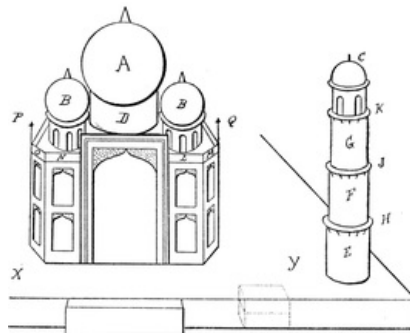
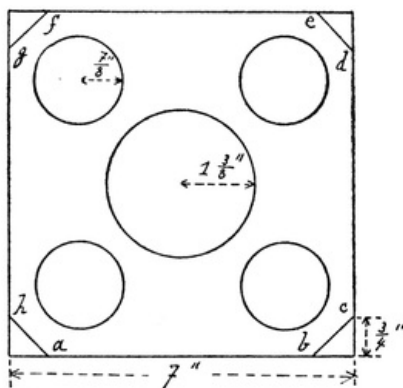
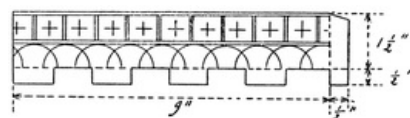
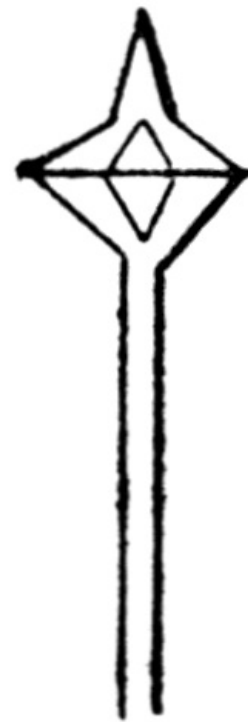

FIG. 534
FIG. 535
FIG. 536
FIG. 542
In Fig. 534 the dome, A, is a plain india-rubber ball, circumference about 11 inches. Four india-rubber balls, circumference about 6 inches, are needed as B B, and four, circumference about 4½ inches, for the four columns (C in Fig. 534) which surround the temple. Cut a piece of fairly thick cardboard, 7 inches square, for the roof of the temple. Cut off the corners as in Fig. 535. In the centre describe a circle with radius 1-3/8 inches, and round it four smaller circles of radius 7/8 inch.
Cut a strip of thin cardboard 9 inches by 2 inches. Cut as in Fig. 536, leaving flanges of ½ inch. Roll round and fasten together with seccotine and two small paper-clips, size 00. This forms the part of the temple marked D in Fig. 534. It is glued to the roof by the flanges, etc., and ball, A, is glued into it.
Before fastening it together, mark on it in ink the pattern indicated in Fig. 536.
Cut four strips of cardboard 5 inches by 1 inch; cut and mark as in Fig. 537, and glue this round the smallest balls, C. Measure distances  $ha$ ,  $ab$ ,  $bc$ ,  $cd$ , etc. (Fig. 535), on a piece of cardboard,
**To make Tower, C E** (Fig. 534). It consists of three rolls of thin cardboard, E F G, each about 2 inches high, circumference  $4\frac{1}{2}$  inches.
Round the sides of the building strips of paper, L, M, N, O (Fig. 534), are gummed, rising about  $\frac{1}{2}$  inch from the roof, with patterns drawn on them as in Fig. 543. Little cardboard turrets (Fig. 542) are cut out and gummed in each corner, P and Q (Fig. 534). Little cones of paper, made by rolling together a circle cut as in Fig. 544, may be glued to the tops of the domes.